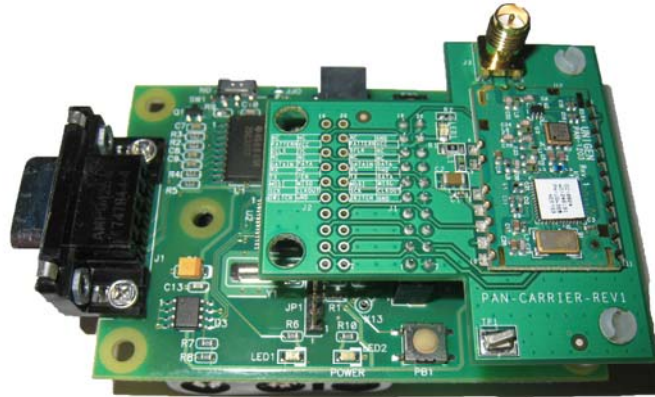

Figure 1
- 1.) Insert the PAN module with carrier board onto the Vesta motherboard as seen on Figure 1.